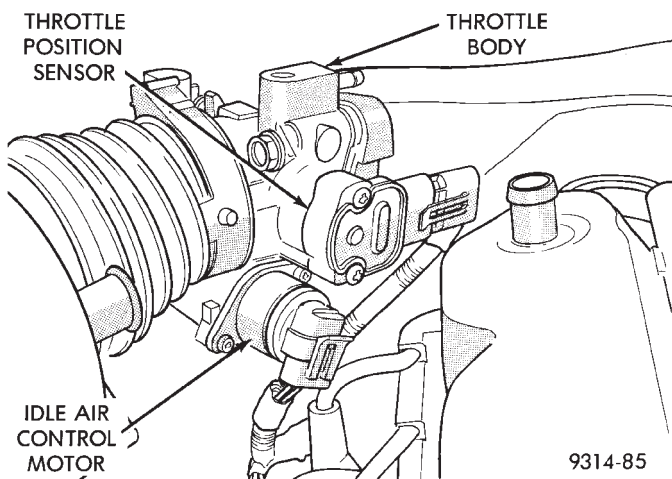
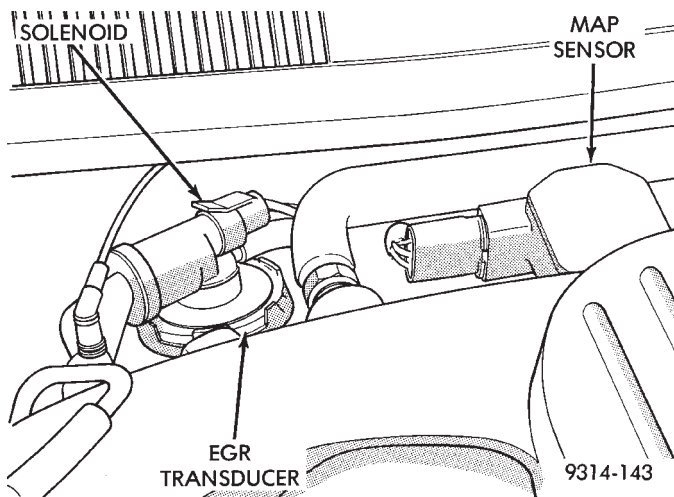

Fig. 6 Throttle Position Sensor
Fig. 14 EGR Transducer
(4) Disconnect electrical connectors from idle air control motor and throttle position sensor (Fig. 6).
(6) Disconnect electrical connector from solenoid on EGR valve transducer (Fig. 14).
(7) Disconnect electrical connector from MAP sensor (Fig. 14).
(8) Disconnect hose from PCV valve at rear of intake manifold plenum. Disconnect brake booster hose from nipple at rear of intake manifold plenum. Disconnect vacuum line from fuel pressure regulator.
(9) Disconnect purge hose from throttle body. Disconnect electrical connector from throttle position sensor and idle air control motor (Fig. 6).